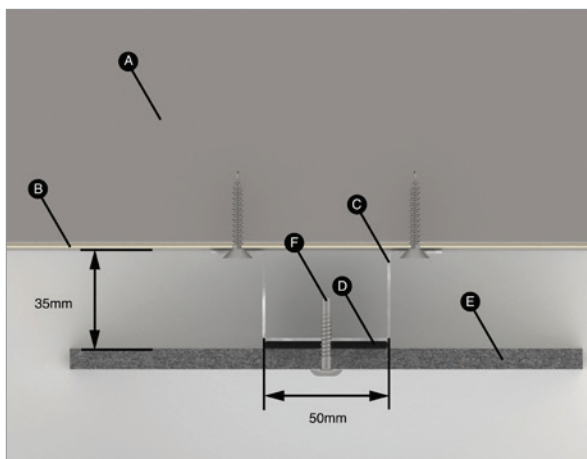

FIGURE 13.
Genesis Façade Gasket Tape is also applied to the Genesis Intermediate Top Hat to assist with movement and minimize any vibration in the panels (see Figure 13).
- If the small cut outs are no wider than 150mm, they can be mounted with one screw fixing in the middle of the board width (see Figure 13).